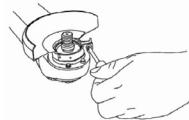

FIG. 4
- Use a #2 Philips® screwdriver to tighten the guard clamp screw (Fig. 4).